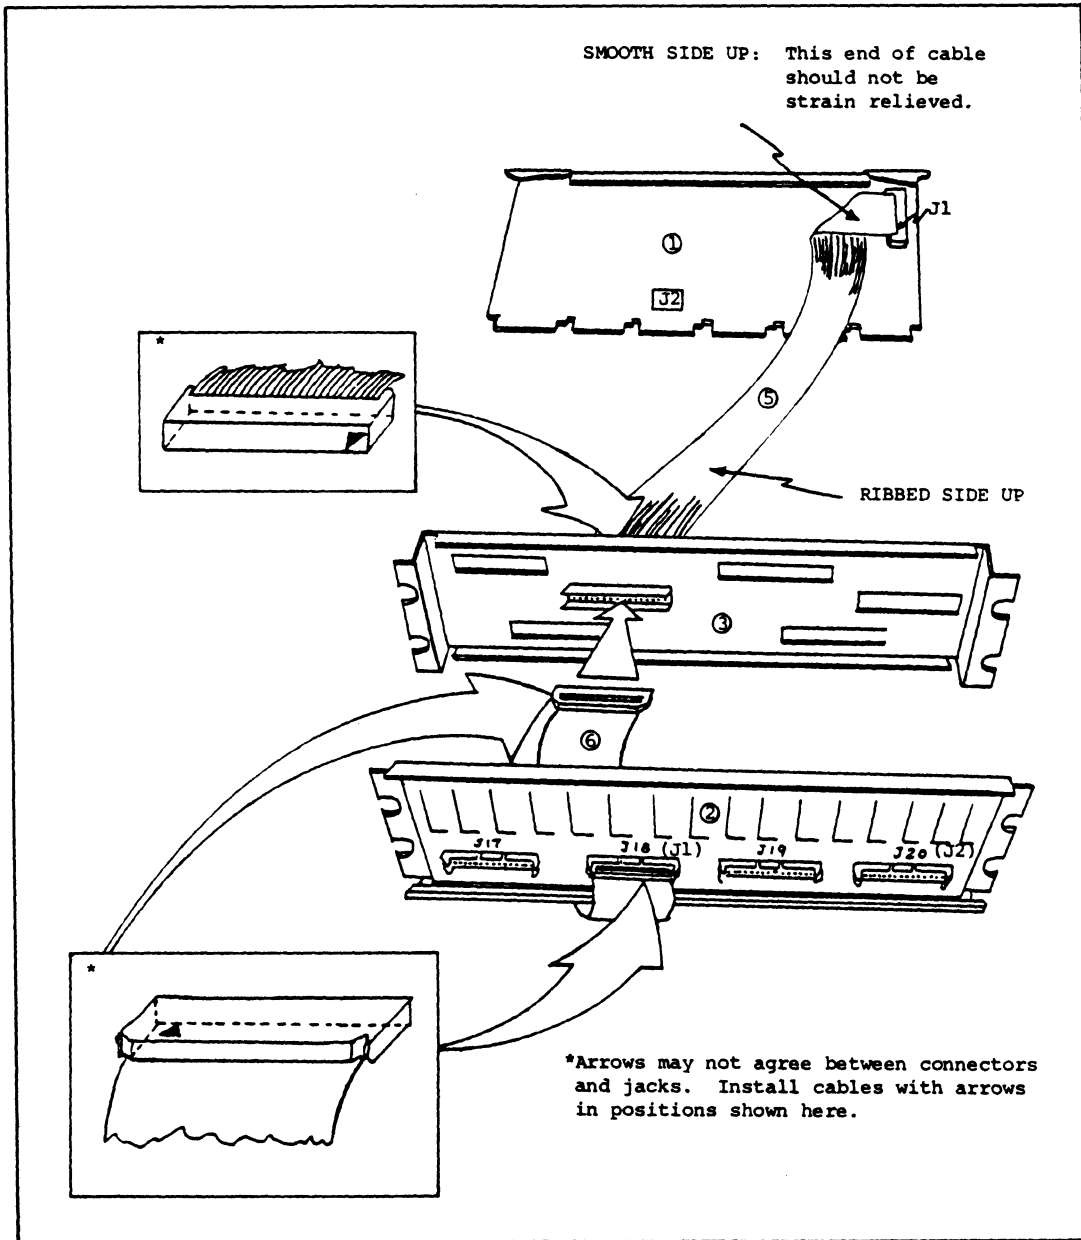

FIGURE 2-1: PM-DZ11A AND B OR PM-DZ11C AND D INSTALLATION
Refer to Figure 2-1.
- Insert the remaining end of the mirror cable into J18 (EIA) or J1 (20mA) as shown in Figure 2-1.